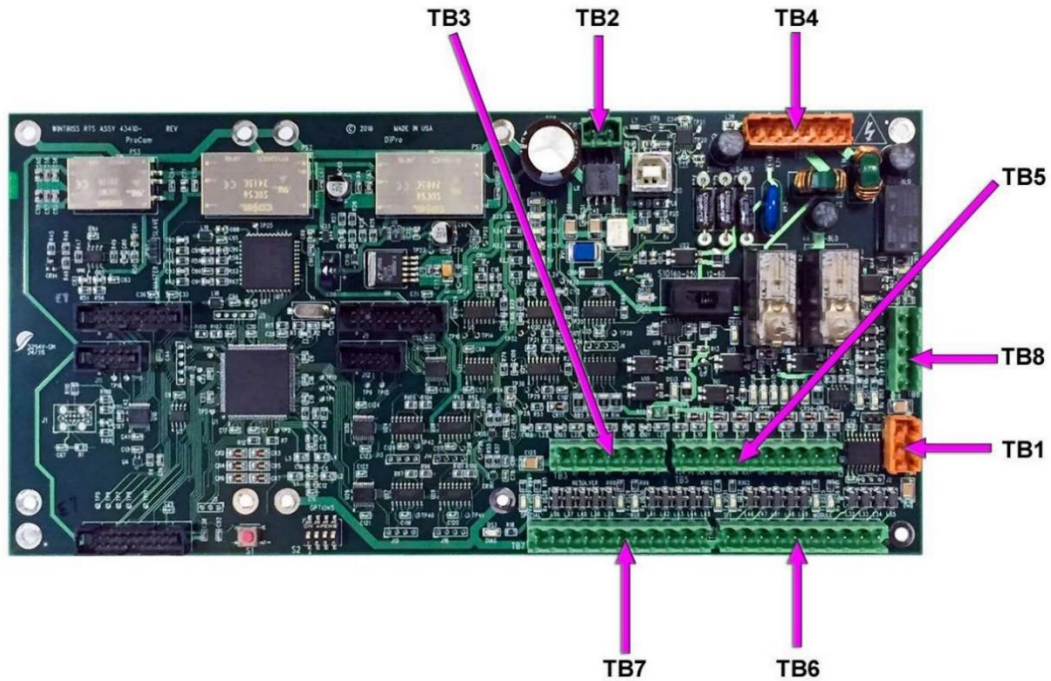

Figure 2-6. Location of Terminal Blocks TB1 through TB8
3. Find the resolver connector TB-3 on the SmartPAC PRO board (see Figure 2-6, page 23).